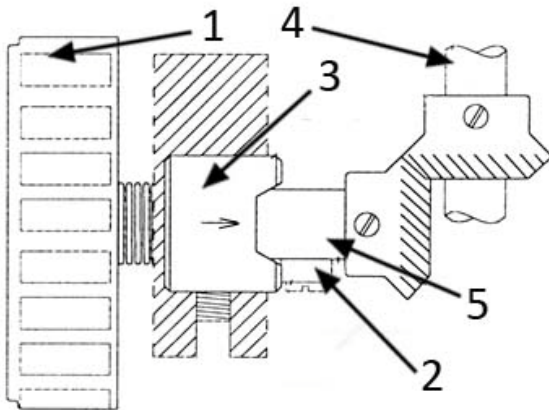

Fig. 40
- A. Press the hand wheel (1) in the direction of the arrow and turn the wheel until the roller leans against longer side of the bushing (3). See fig. 40.
- B. Set the correct clearance on conical gearwheels of the main shaft (4) and hand wheel shaft (5).
- C. Turn the hand wheel (1) until the roller (2) sinks into short side of the bushing (3), thus making the required clearance between the gearwheels and enabling sewing operation of the machine.